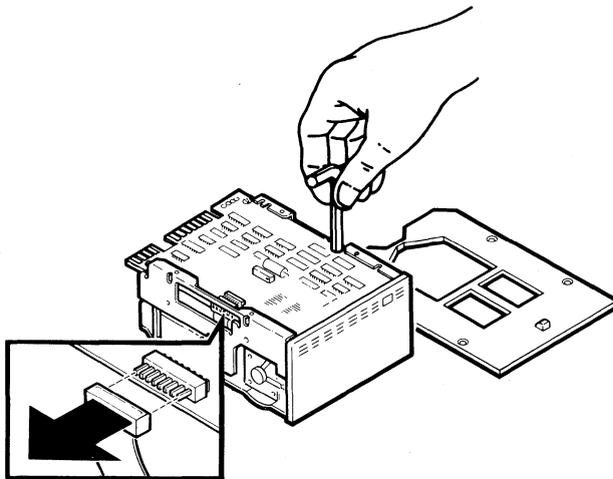

Figure 6-7 RD51 Disk Drive Allen Screws and Connector P5 Removal
2. Using a 3/32-inch Allen wrench, remove the four screws that hold the read/write printed circuit board to the fixed disk drive (Figure 6-7).